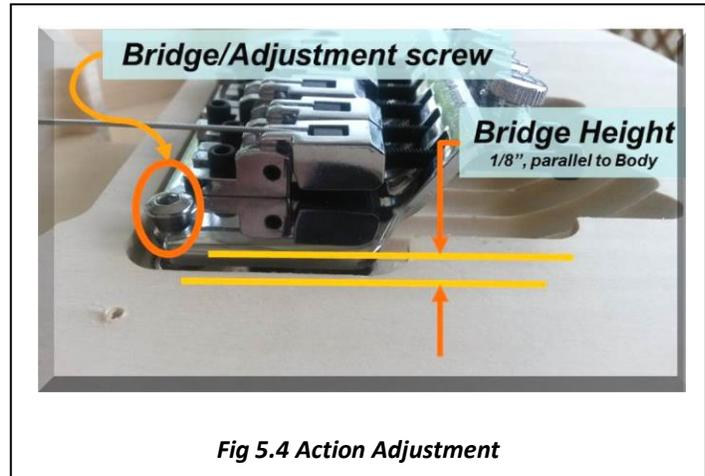

Fig 5.4 Action Adjustment
5.4 Adjusting the Action (string height) (Figure 5.4)
1. Check and, if necessary, adjust the low (thick) E string height at the 12th fret to 2/64". Do this by adjusting the height of the bridge at the thick E string end (Fig. 5.4). This is done by rotating the Bridge insert adjustment counter-clockwise to raise the bridge or clockwise to lower it.